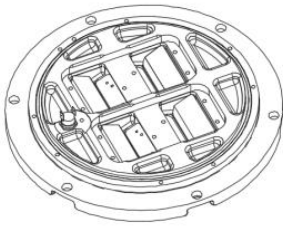

Figure 4-11
- Push the lens and its gasket sleeve to the working position on the upper cover. When pushing them, water clean water at the window and wipe the lens surface with the diethyl ether to keep it clean (see Figure 4-11);